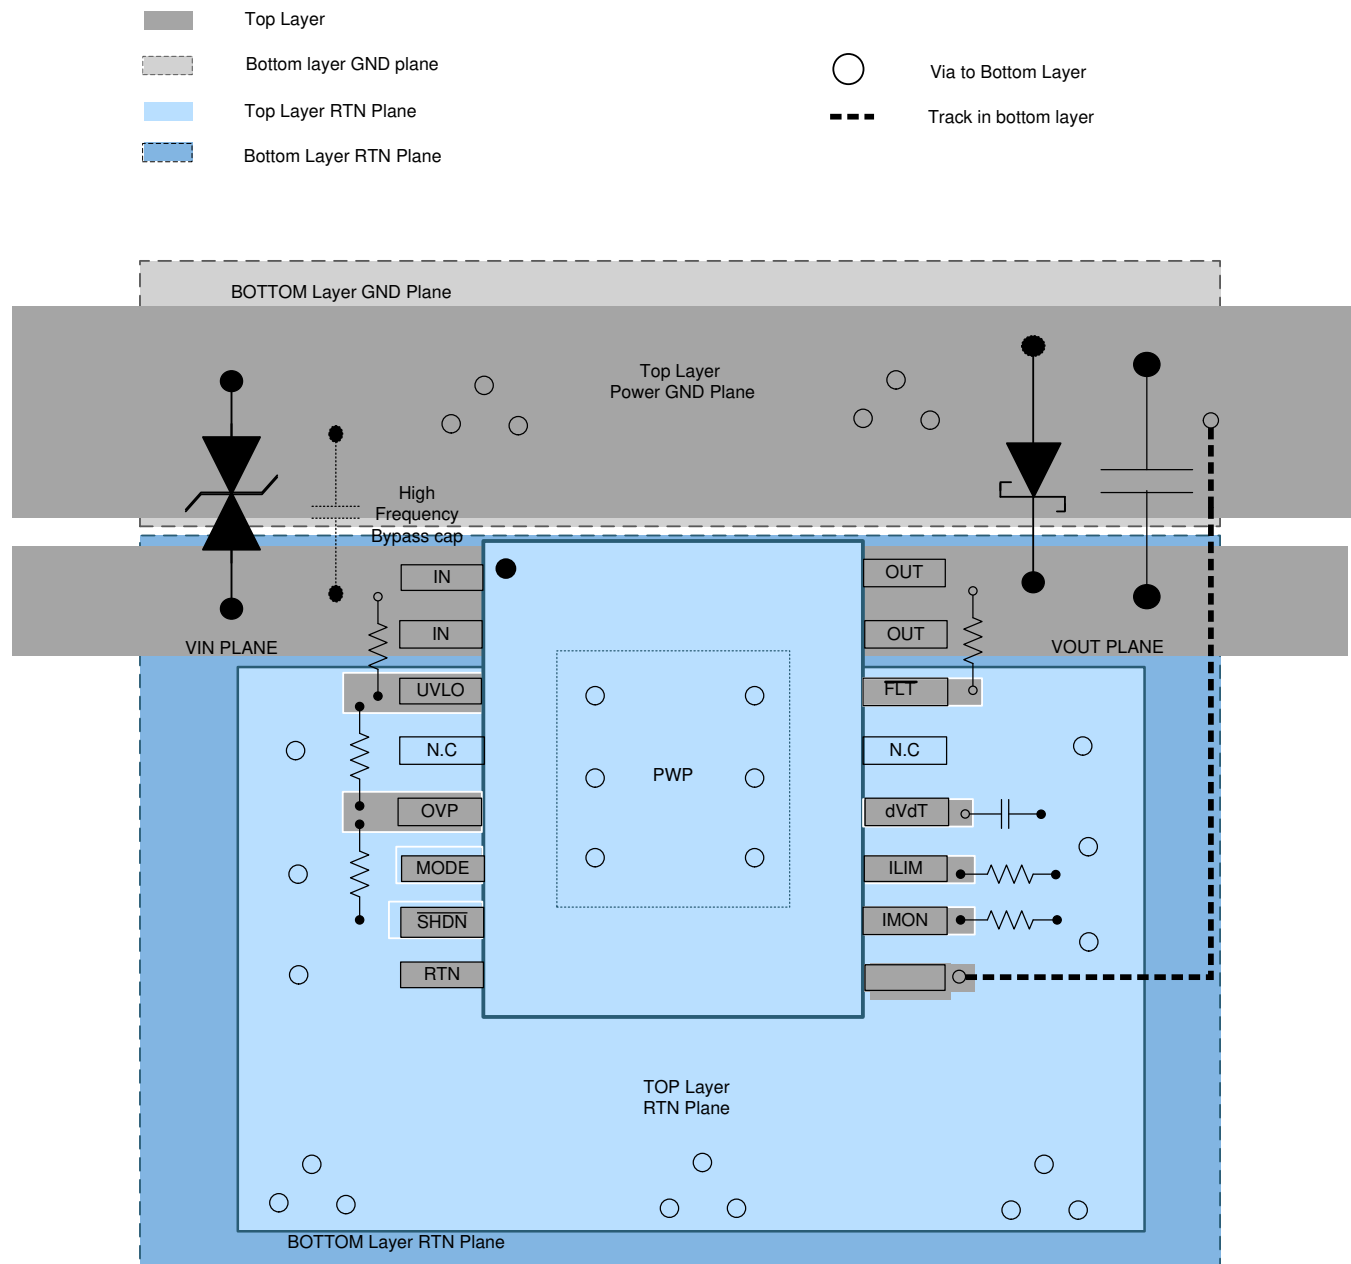

图 47. Typical PCB Layout Example With HTSSOP Package With a 2-Layer PCB
- The optimum placement of decoupling capacitor is closest to the IN and GND terminals of the device. Care must be taken to minimize the loop area formed by the bypass-capacitor connection, the IN terminal, and the GND terminal of the device. See Figure 47 for PCB layout example with HTSSOP package.